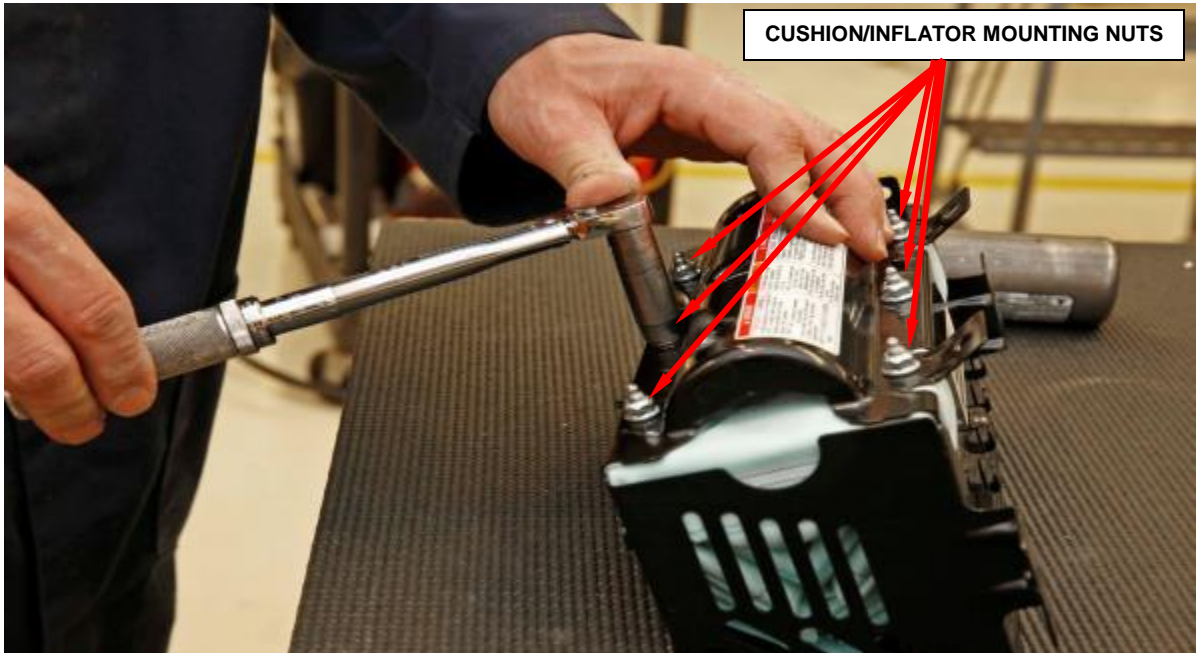

Figure 25 – Cushion/Inflator Assembly Mounting Nuts
- j. Install the six new cushion/inflator mounting nuts and tighten to 88 in. lbs. (10 N·m) (Figure 25).